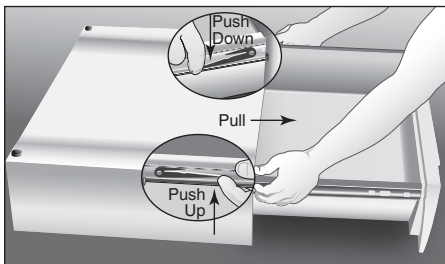

Figure 4
3. Remove the drawer by pushing up on the left side drawer lever and down on the right side drawer lever while pulling drawer out (see **Figure 4**).